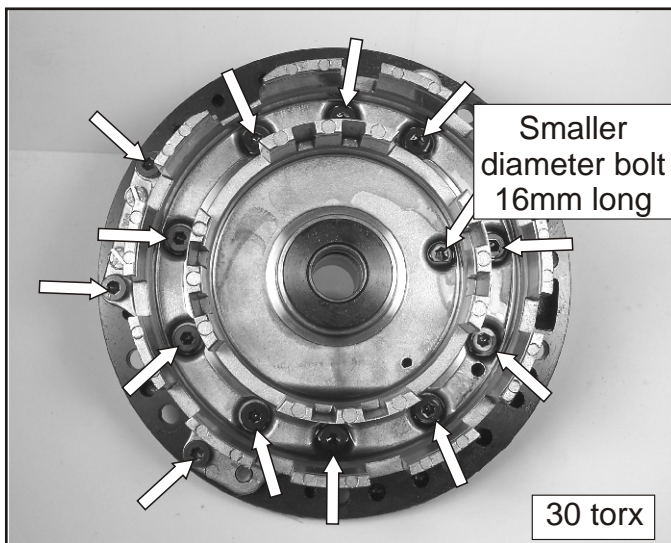

Figure 115
- 63. Assemble the piston housing / stator shaft thru the pump body over the alignment pins as shown in Figure 115. Using a 30 torx bit, install the thirteen 13mm long retaining bolts and torque to 89-124 in.lb. Torque the 16mm long bolt to 53-62 in.lb.